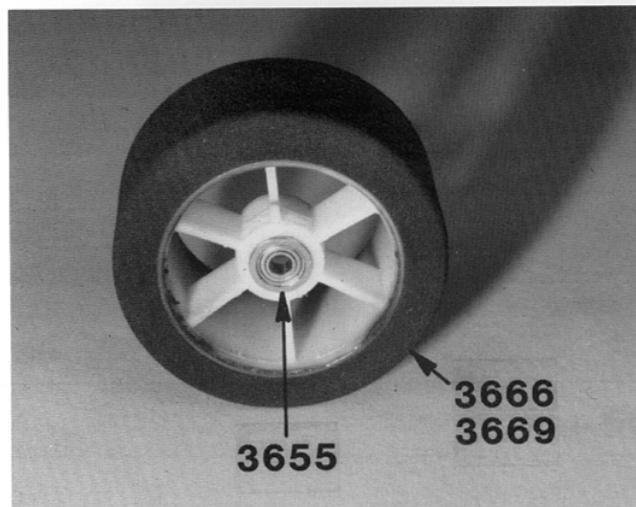

Fig. 57
□ **Fig. 57**—Take the front wheels and push a #3655 ball bearing into the inside and outside bearing pockets in each wheel.